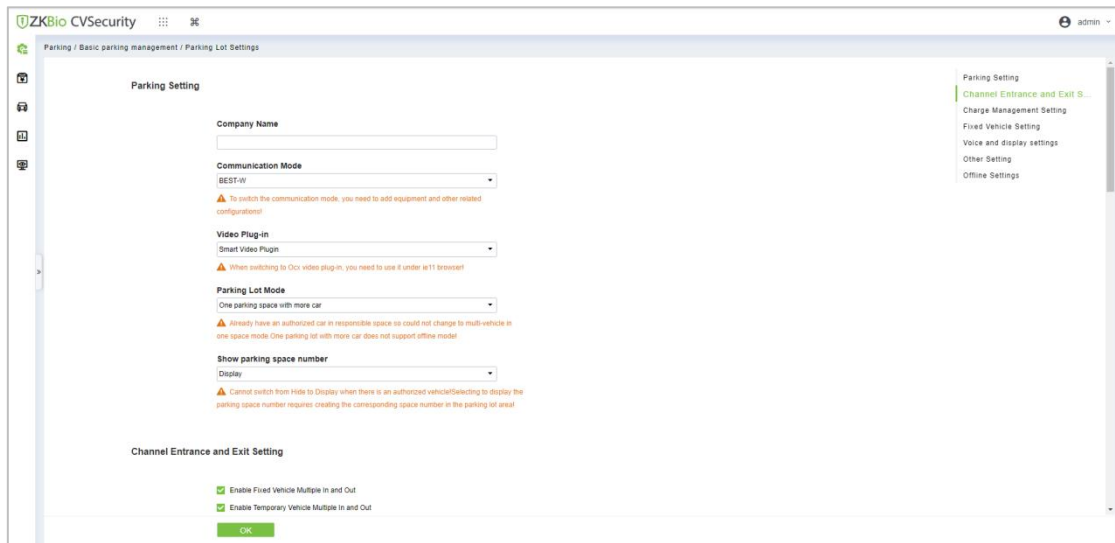

Figure 9-1 Parking Parameter Setting Interface
Step 2: In the Parking setting interface, as shown in Figure 9-1, fill in relevant parameters. Please refer to Table 9-2 for parameters.